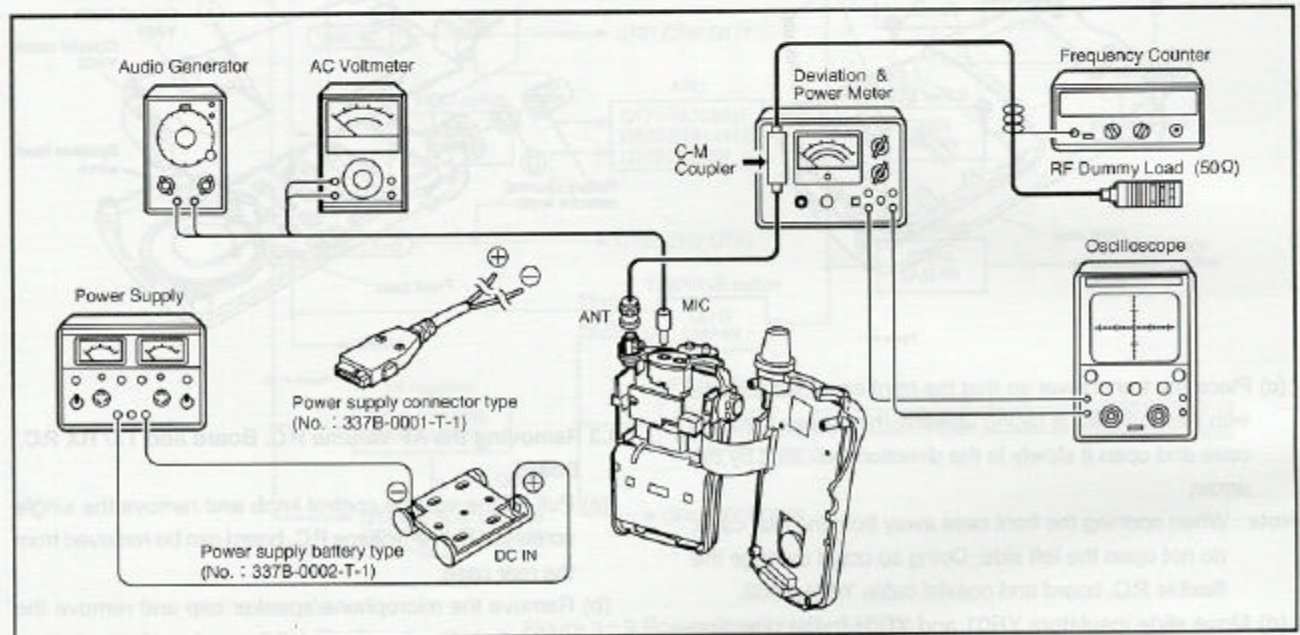

Figure 5-1. Transmission connection diagram
(1) UHF band
- Apply an 8.4 V voltage from interface jack YD02 to the transceiver. (Use the power supply connector type. See figure 5-1)
(2) VHF band